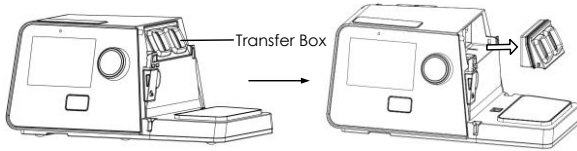

Fig. 16-2
(1) **Removing the Transfer Box:** First remove the water chamber from the device, then remove the transfer box, as shown in Fig. 16-2.